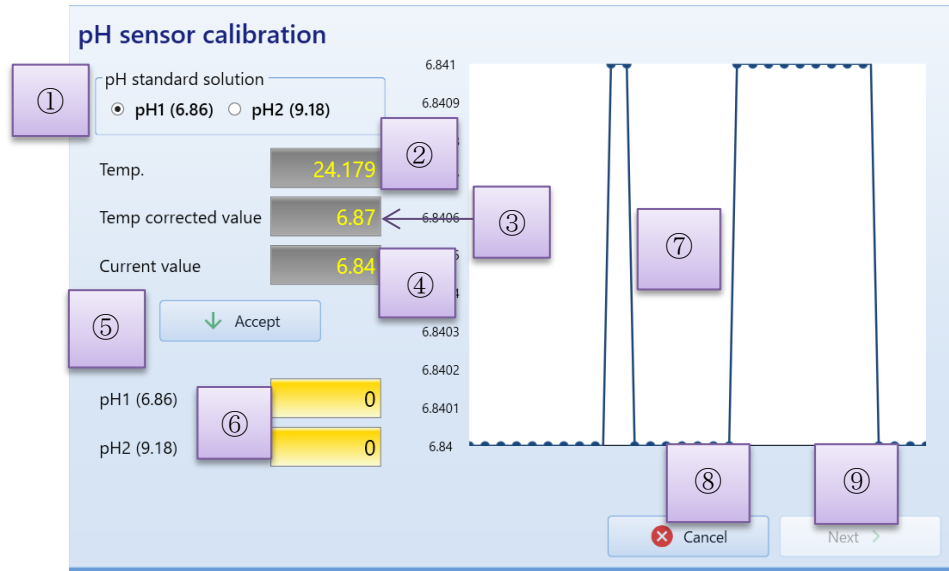

Figure 6.40 Calibration of pH sensor
- (1) Switch to calibration screen by clicking on [pH] button, and start communication with the instrument. (Figure 6.40 / Table 6.6)